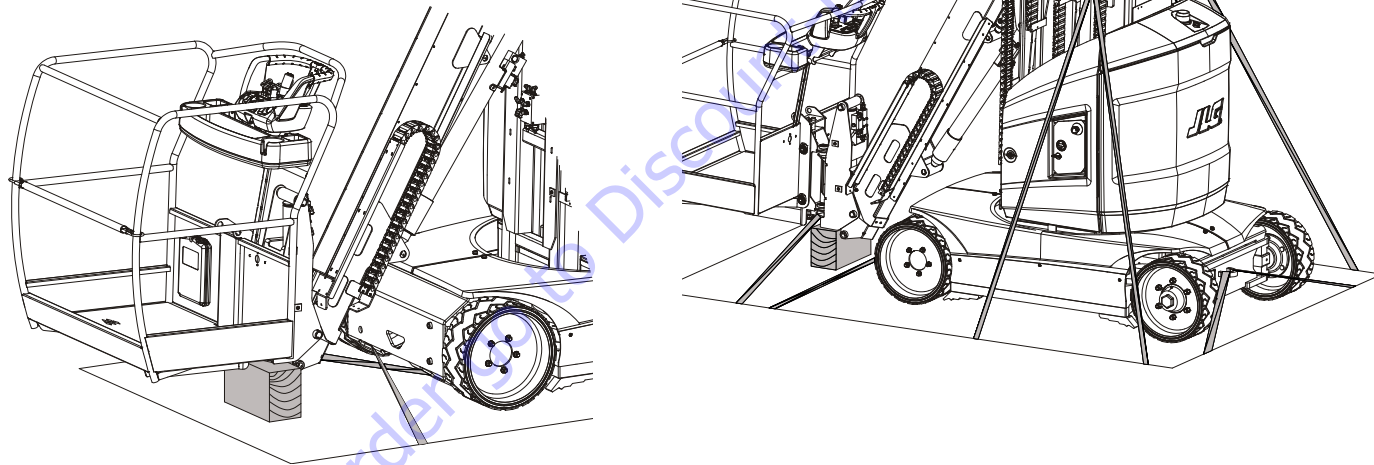

Figure 3-15. Machine Tie-Down
- Machine must be tied down to the truck bed or trailer deck as shown in Figure 3-15.